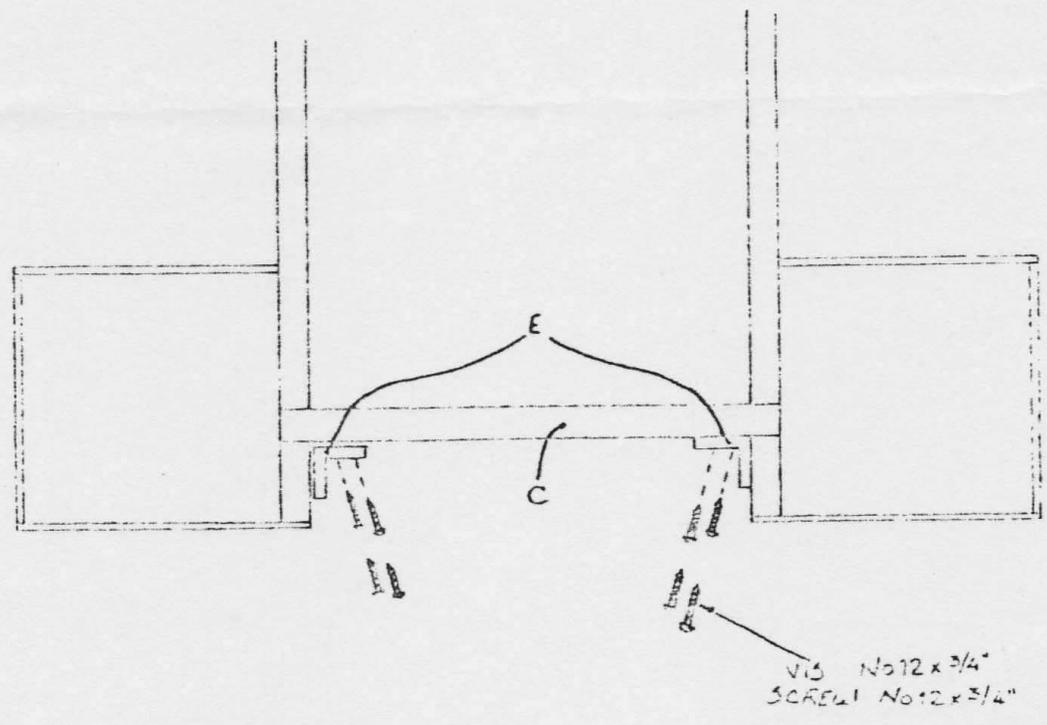

Fig. 2
Lay down the beater which is assembled and screw the shuttle race "C" with the iron fittings "E" with eight (8) screws No 12 X $1"$ and two (2) screws No 14 X $2"$ (Fig. 2).